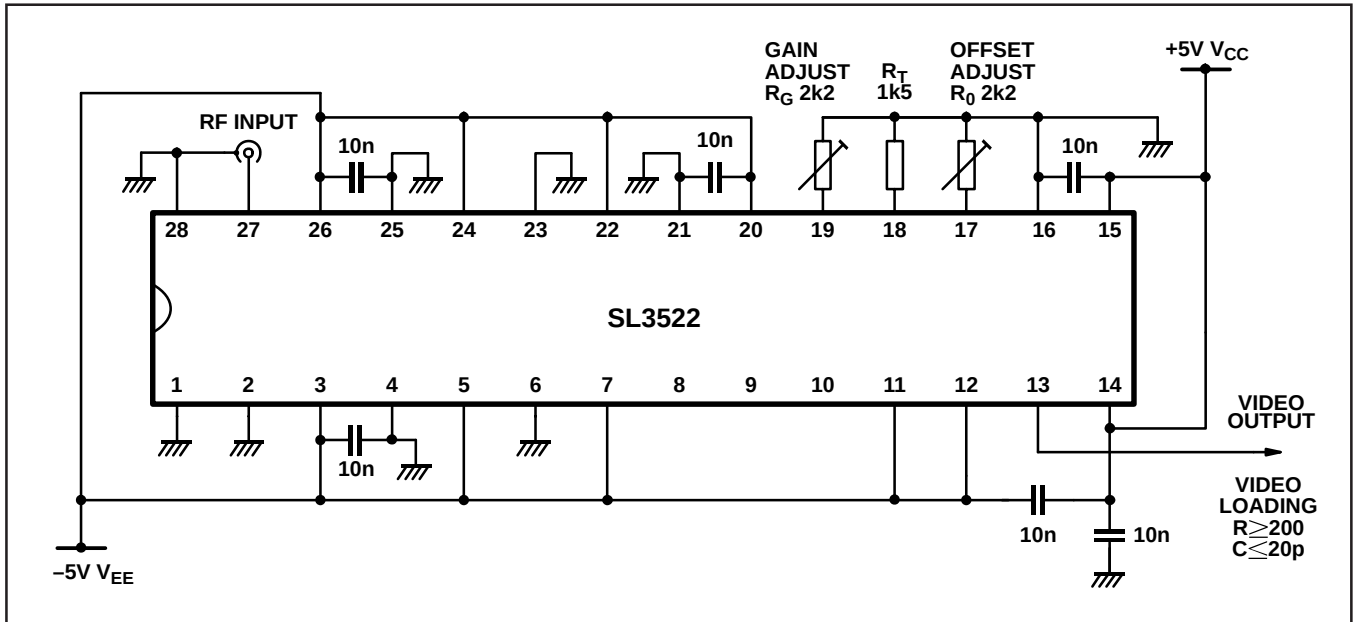
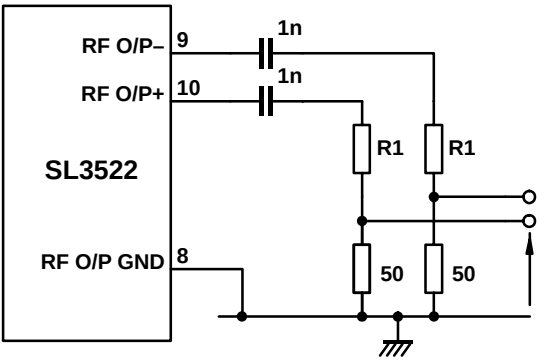

Fig.5 Application circuit successive detection logarithmic function only
Fig.9 Network for attenuating limited RF output
a) Gain and Offset trimming (ref Applications circuits in figs 5 and 6)
If the SL3522 is to be used as a Logarithmic successive detection amplifier only, with no requirement for a limited RF Output, the RF input (pins 27 and 28) can be driven EITHER differentially or single ended from a 50 Ω source. If being used with a single ended input, the SIGNAL should be applied to pin 27 and the RETURN should be connected to pin 28, as shown in the Application circuit diagram in Fig 5.
If required the limited RF Output can be attenuated using an attenuation network as shown in fig. 9. Under these conditions the effective RF Output currents will be reduced, allowing the device to operate with a greater margin of stability. It may be possible to run the device without a BALUN transformer on the RF input if the total output impedance on the RF Output $\gg$ 50 Ω , and the attenuation components are mounted as close as possible to the RF Output connections (pins 9 and 10). The RF input connection could then be configured as in Fig 5.